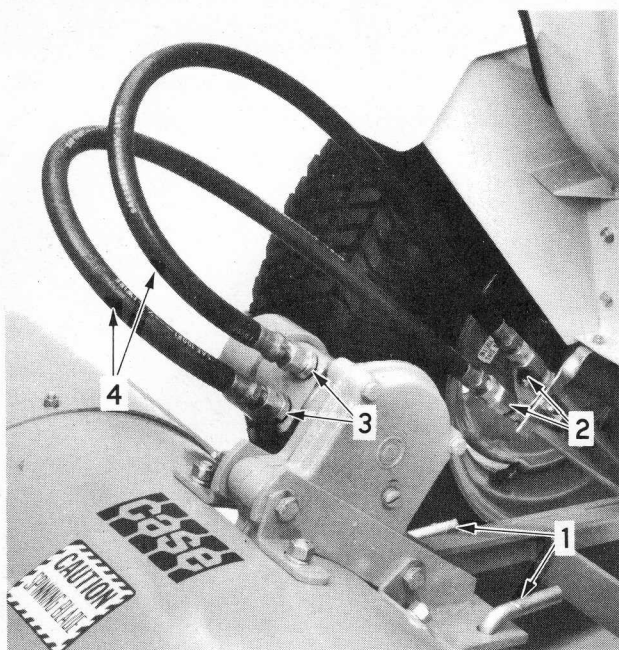

Figure 16. Installing the Tiller to the Hitch and PTO Kit
2. Tighten the "solid" (longer) end of the two female-female adaptor unions to the fittings on the PTO tubes. See Figure 16.
4. Install the two tiller hoses as shown in Figure 16 by connecting the upper motor port to the upper PTO tube and joining the lower motor port with the lower PTO tube.